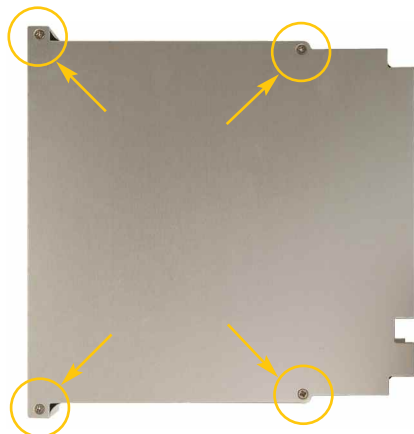

Figure 6 – Preparing to fit the carrier into the adapter
- a) Attach the MAC Panel receiver module (561527) to the MAC Panel carrier (516003X) using the two 3/32" Allen bolts as illustrated in Figure 6. Ensure it is orientated with receiver row A as shown.